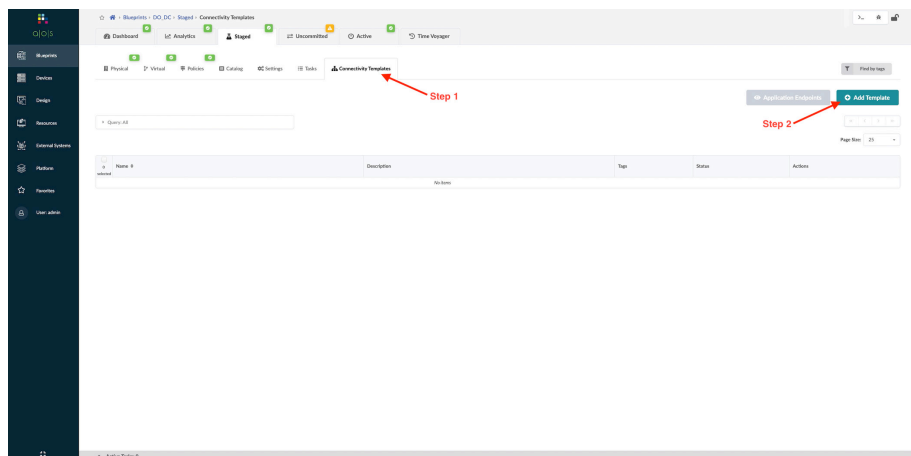

Figure 5.15 Creating a Connectivity Template via Apstra
Step 1: Within the desired blueprint go to Staged > Connectivity Templates. See Figure 5.15.